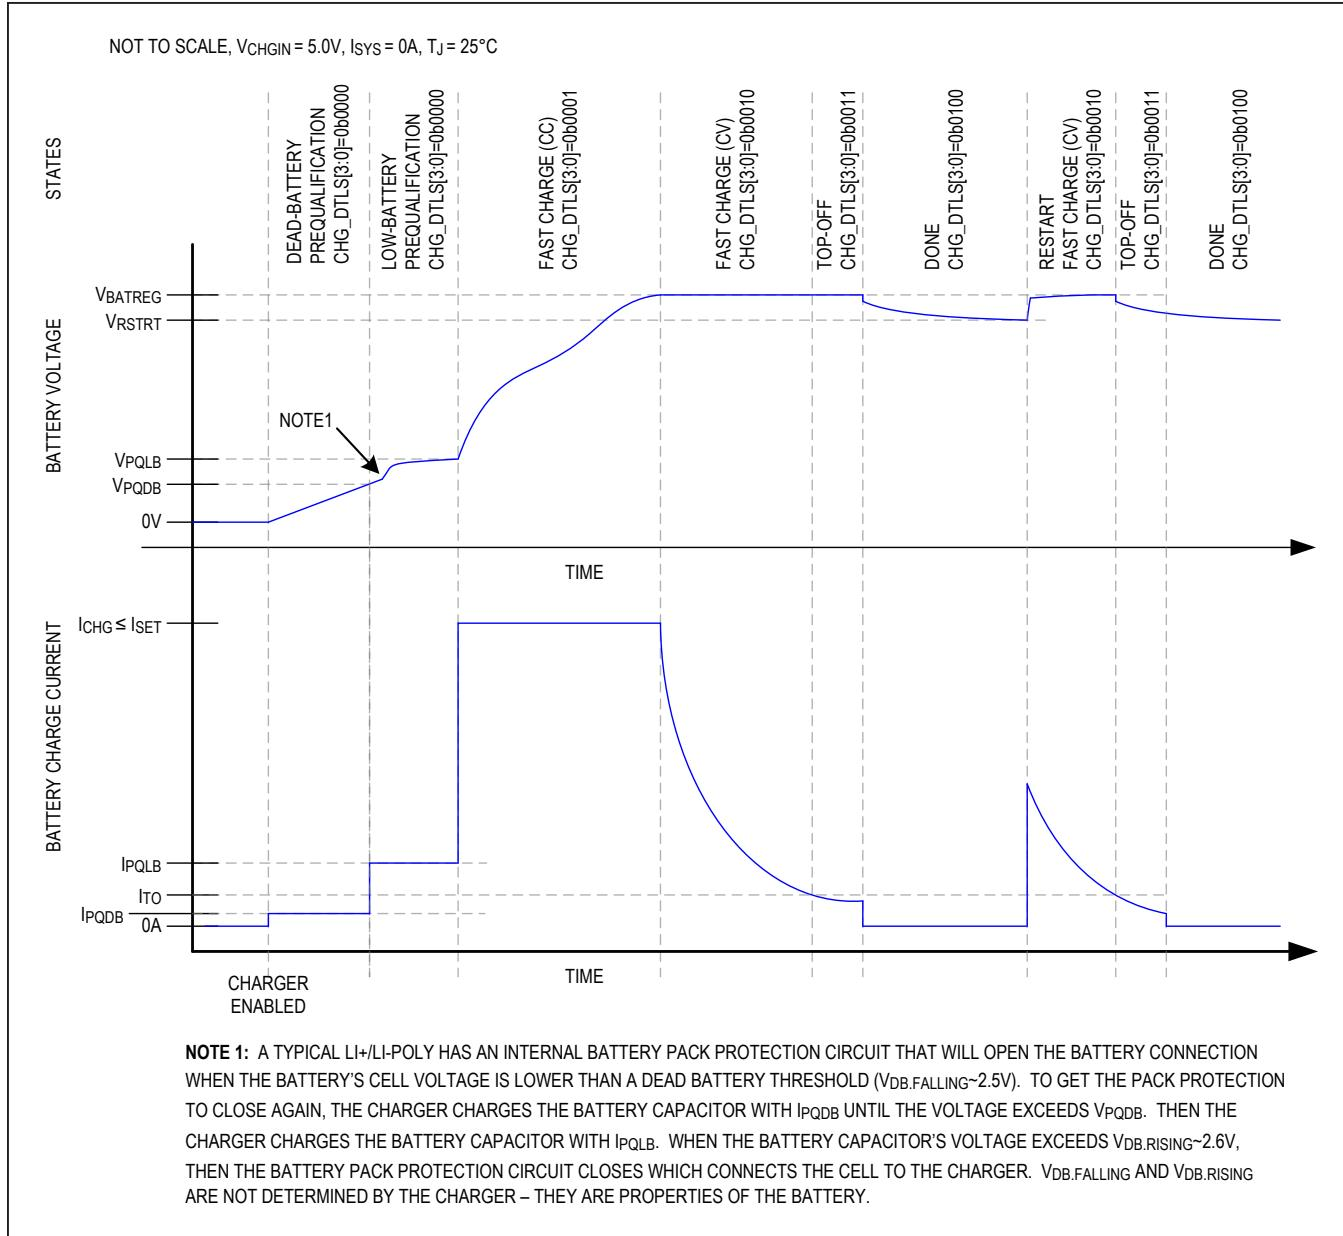
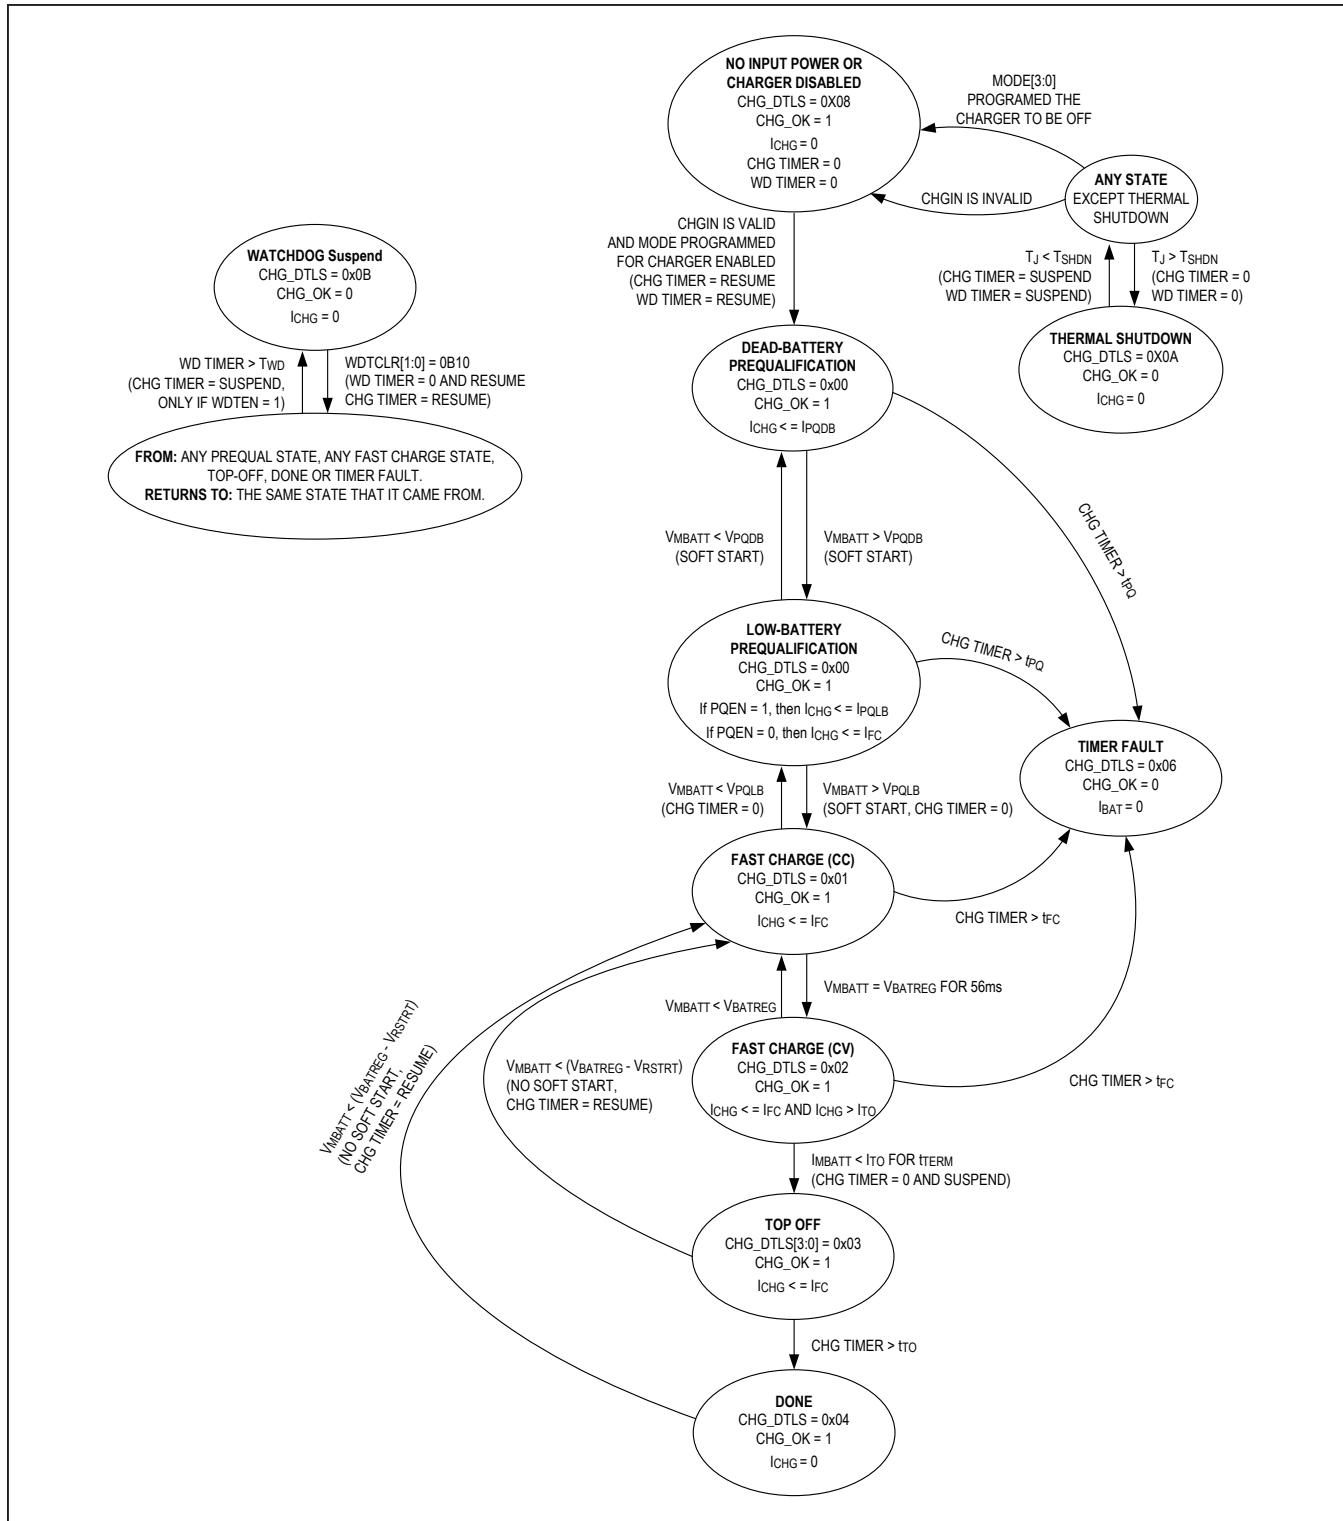

Figure 6. Li+/Li-Poly Charge Profile
Figure 7. Charger State Diagram
The MAX77818 utilizes several charging states to safely and quickly charge batteries as shown in Figure 6 and Figure 7. Figure 6 shows an exaggerated view of a Li+/Li-Poly battery progressing through the following charge states when there is not system load and the die and battery are close to room temperature: prequalification → fast-charge → top-off → done.
From any state shown in Figure 7 except thermal shutdown, the no input power or charger disabled state is entered whenever the charger is programmed to be off or the charger input CHGIN is invalid. After being in this state for t_{SCIDG} , a CHG_I interrupt is generated, CHG_OK is set and CHG_DTLS is set to 0x08.
As shown in Figure 7, the dead battery prequalification state occurs when the main battery voltage is less than V_{PQDB} . After being in this state for t_{SCIDG} , a CHG_I interrupt is generated, CHG_OK is set and CHG_DTLS is set to 0x00. In the dead battery prequalification state charge current into the battery is I_{PQDB} .
As shown in Figure 7, the fast-charge constant current (CC) state occurs when the main battery voltage is greater than the low battery prequalification threshold and less than the battery regulation threshold ($V_{PQLB} < V_{BATT} < V_{BATREG}$). After being in the fast-charge CC state for t_{SCIDG} , a CHG_I interrupt is generated, CHG_OK is set and CHG_DTLS = 0x01.
As shown in Figure 7, the fast-charge constant voltage (CV) state occurs when the battery voltage rises to V_{BATREG} from the fast-charge CC state. After being in the fast-charge CV state for t_{SCIDG} , a CHG_I interrupt is generated, CHG_OK is set and CHG_DTLS = 0x02.
In the fast-charge CV state the battery charger maintains V_{BATREG} across the battery and the charge current is less than or equal to I_{FC} . As shown in Figure 6, charger current decreases exponentially in this state as the battery becomes fully charged.
As shown in Figure 7, the top-off state can only be entered from the fast-charge CV state when the charger current decreases below I_{TO} for t_{TERM} . After being in the top-off state for t_{SCIDG} , a CHG_I interrupt is generated, CHG_OK is set and CHG_DTLS = 0x03. In the top-off state the battery charger tries to maintain V_{BATREG} across the battery and typically the charge current is less than or equal to I_{TO} .
As shown in Figure 7, the battery charger enters its done state after the charger has been in the top-off state for t_{TO} . After being in this state for t_{SCIDG} , a CHG_I interrupt is generated, CHG_OK is cleared and CHG_DTLS = 0x04.
The battery charger provides both a charge timer and a watchdog timer to ensure safe charging. As shown in Figure 7, the charge timer prevents the battery from charging indefinitely. The time that the charger is allowed to remain in its each of its prequalification states is t_{PQ} . The time that the charger is allowed to remain in the fast-charge CC and CV states is t_{FC} which is programmable with FCHGTIME. Finally, the time that the charger is in the top-off state is t_{TO} , which is programmable with TO_TIME. Upon entering the timer fault state a CHG_I interrupt is generated without a delay, CHG_OK is cleared and CHG_DTLS = 0x06.
In the timer fault state the charger is off. The charger can exit the timer fault state by programming the charger to be off and then programming it to be on again through the MODE bits. Alternatively, the charger input can be removed and reinserted to exit the timer fault state. See the any state bubble in the upper right of Figure 7.
The battery charger provides both a charge timer and a watchdog timer to ensure safe charging. As shown in Figure 7, the watchdog timer protects the battery from charging indefinitely in the event that the host hangs or otherwise cannot communicate correctly. The watchdog timer is disabled by default with WDTEN = 0. To use
As shown in Figure 7, the thermal shutdown state occurs when the battery charger is in any state and the junction temperature (T_J) exceeds the device's thermal shutdown threshold (T_{SHDN}). When T_J is close to T_{SHDN} , the charger has folded back the input current limit to 0A so the charger and inputs are effectively off. Upon entering this state, CHG_I interrupt is generated without a delay, CHG_OK is cleared, and CHG_DTLS = 0x0A.